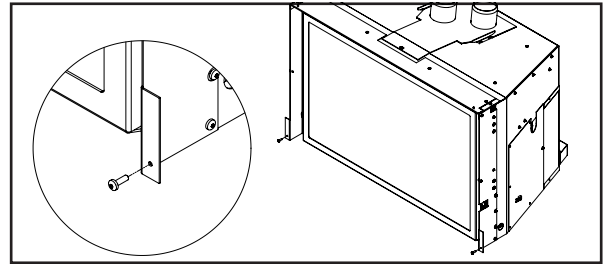

Figure 36: Trimmable Panel Screw Install.
INSTALLATION: Using a T20 screwdriver, screw one (1) #8-32 x .5" screws approximately 1/4" into the bottom of each Side Extension (see Figure 36).